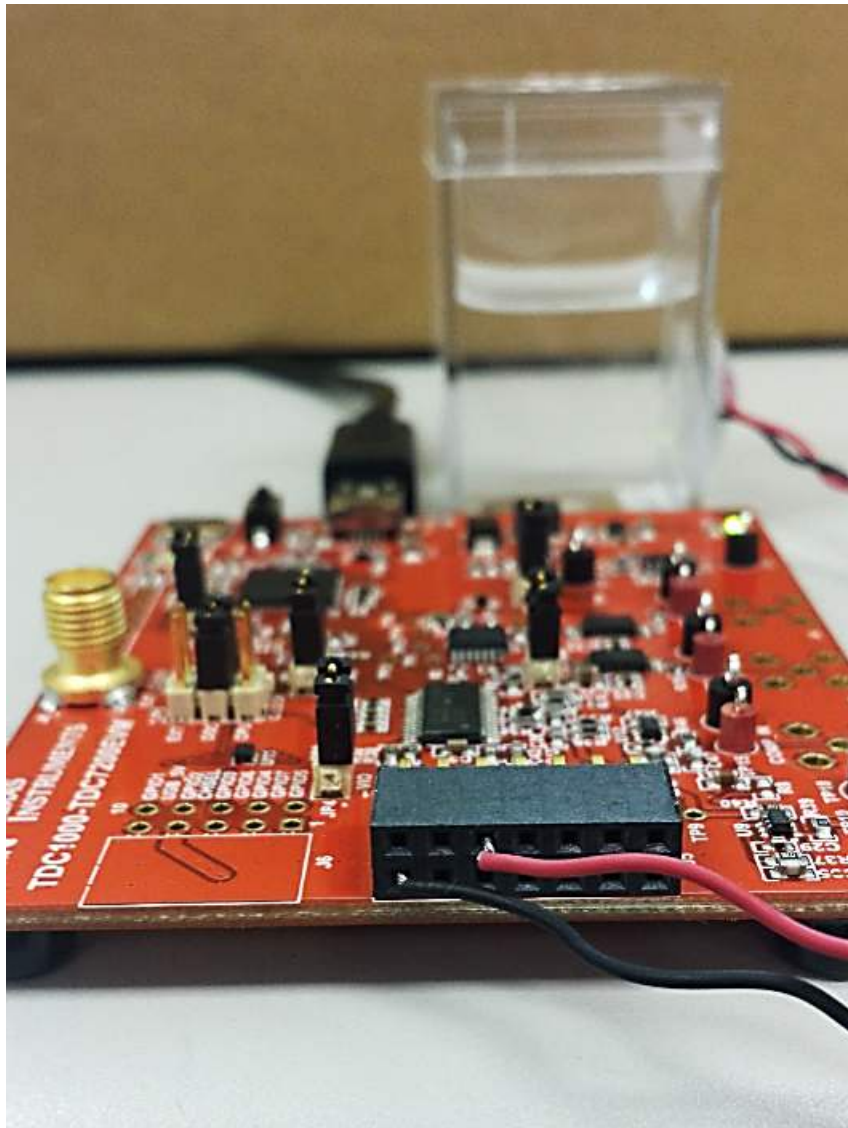

Figure 5-1. Transducer Connected to Channel 1 (TX1/RX2)
3. Attach the transducer wires to the terminals TX1/RX2 (J5, pin 8) and GND (J5, pin 7) on the EVM board (see Figure 5-1).